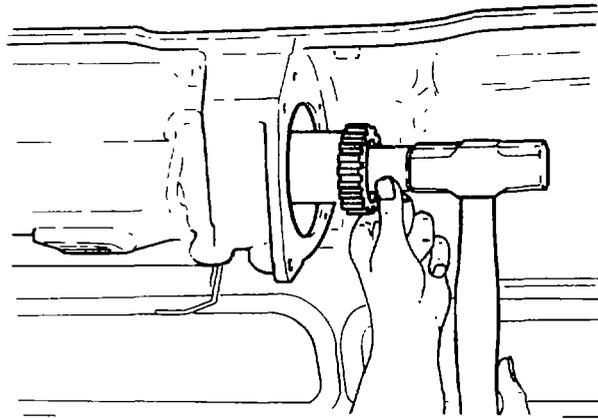

Fig. 64 — Installing Drive Coupling
- e. Fit the key to the drive coupling for the air compressor then fit the oil pump drive gear to the coupling; fit the coupling to the auxiliary shaft; if necessary use a soft, hollow drift to drive the coupling fully home on the shaft (see fig. 64).